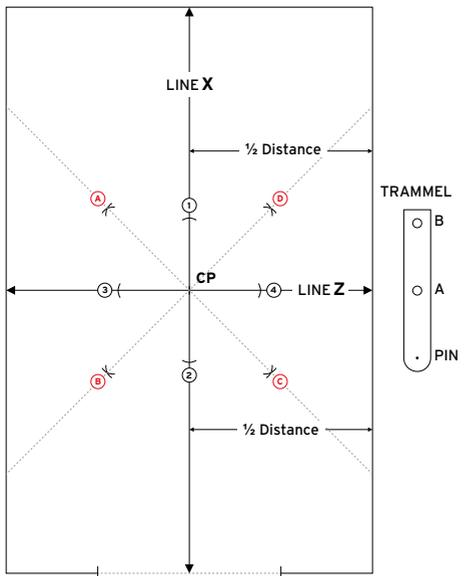

Figure 3
- ▶ Find the centre of line X and mark the Centre Point (CP).
5.6.3 Setting out and installation for diagonal tiling (Refer to fig. 3)
- ▶ Mark a centre line as described earlier (fig. 3).